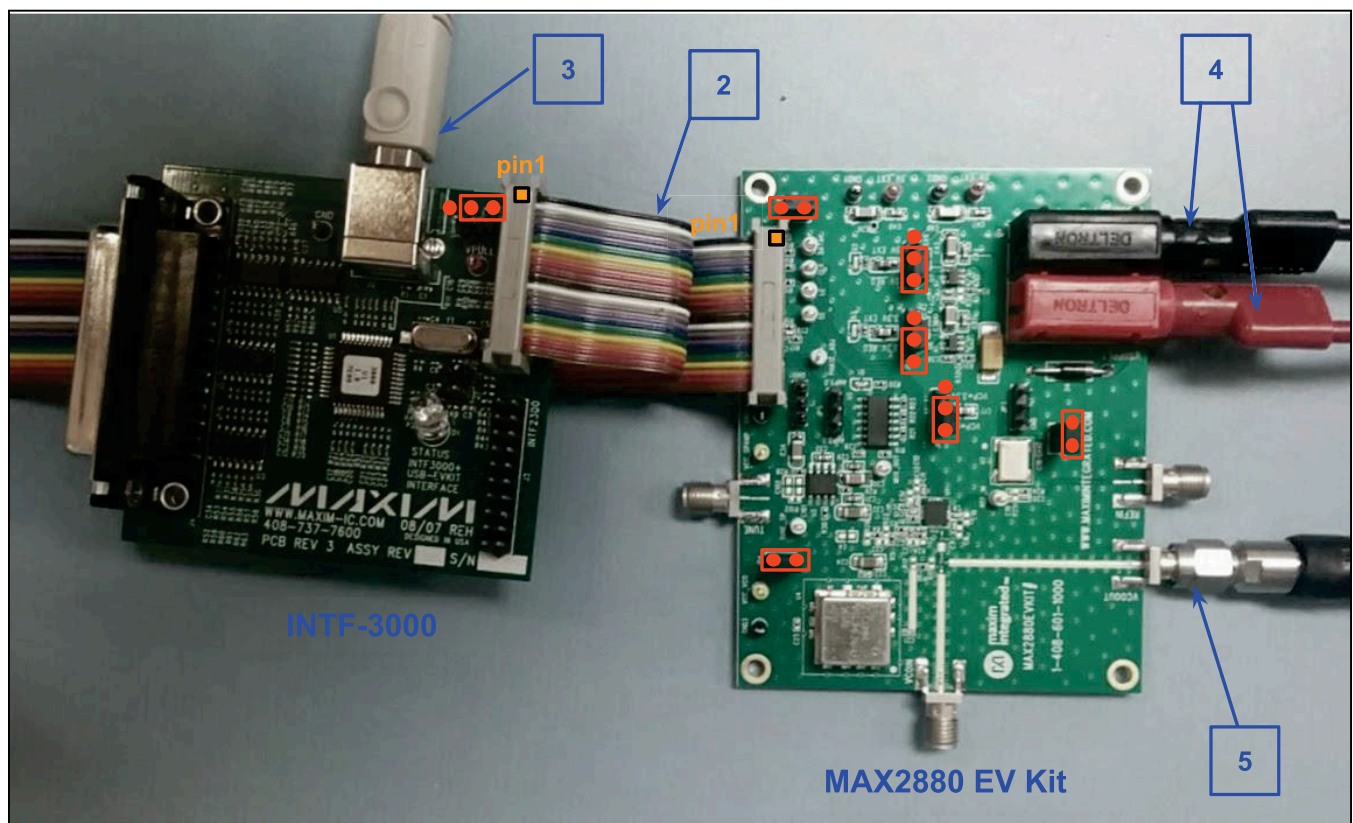

Figure 2. Hardware Setup and Default Jumper Pposition
- 1) Verify that all jumpers are in their default positions, as shown in Figure 2.
- 2) Connect the 20-pin cable between the INTF-3000 board and the EV kit; verify the pin 1-1 connections, as shown in Figure 2.